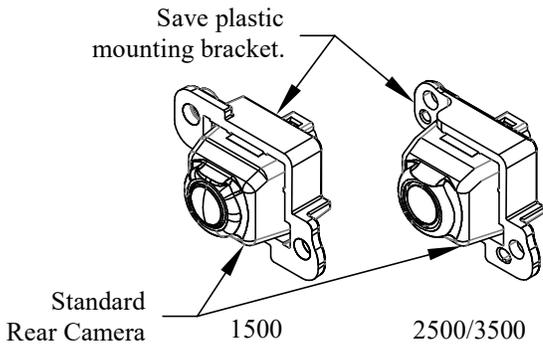

Figure 2: Standard rear camera.
- **Standard Rear Camera (UVC)** shows a curved bumper on the screen when backing up. It looks like the camera shown in Figure 2.
- Leave the standard rear camera attached to its plastic mounting bracket (Figure 2).